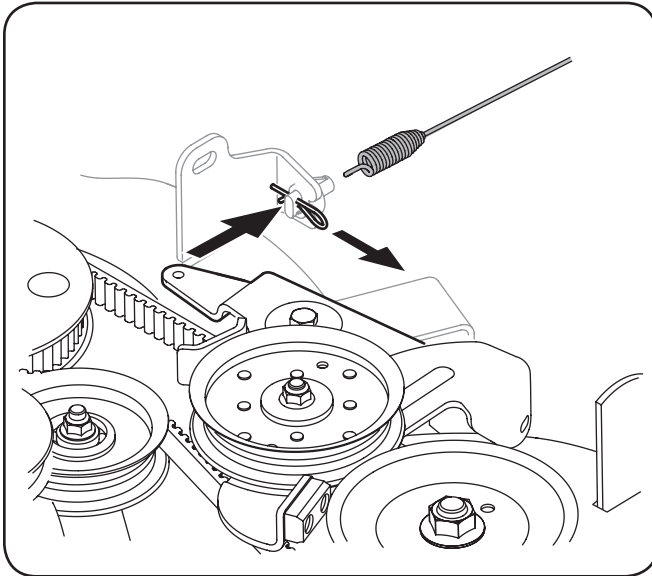

Figure 7-4
13. Pull the click pin out and unhook the drive spring cable from the idler arm assembly. See Fig. 7-4.